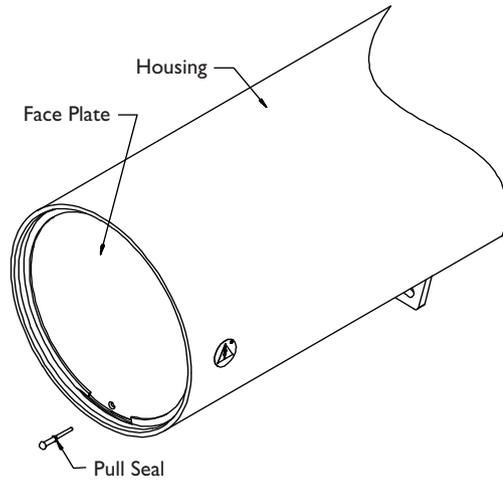

FIGURE 17 Inserting the Pull Seal
3. Insert the *long end* of the pull seal into the breather hole starting from the front side of the face plate. See FIGURE 17.